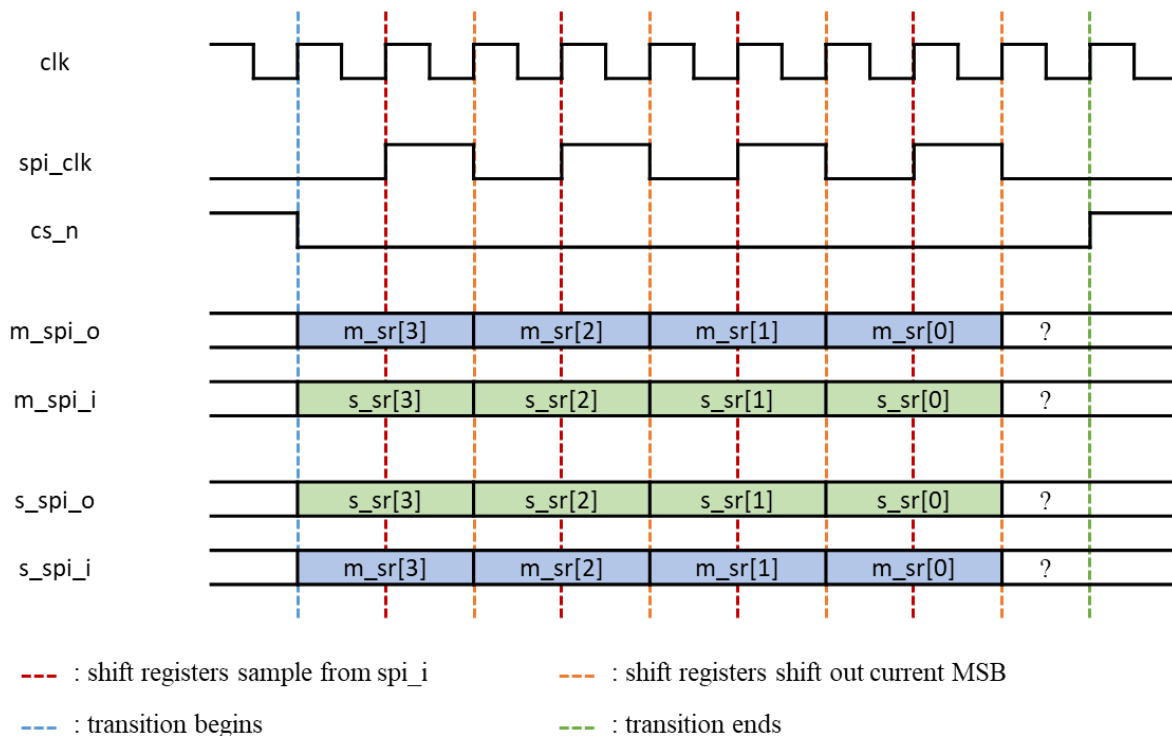

Figure 8: Example timing diagram with frequency ratio = 2, transition width= 4, CPOL = 0 and CPHA = 0.
To help you start, we provide a sample timing diagram in Figure 8 for the transition stage for the following specification:
- Look into Figure 8, how can you further divide TRANSITION state? How many total states do you have now?